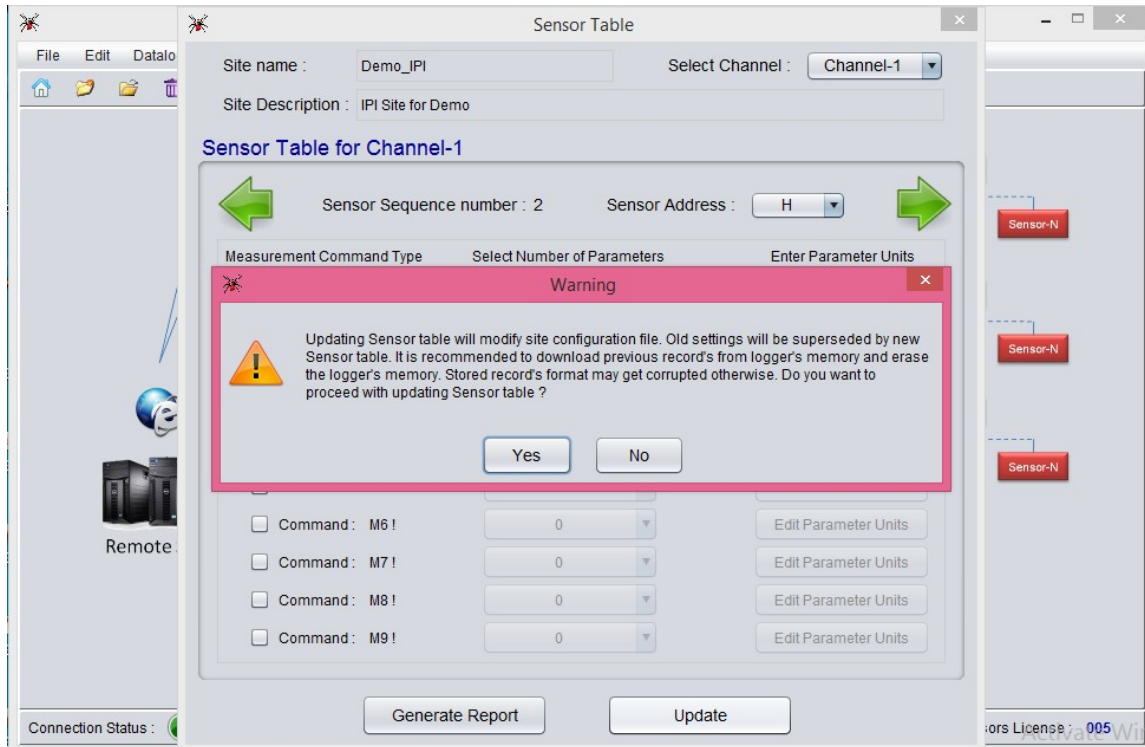

Figure 36 Warning message window appearing upon update of sensor table window
- 19 “Warning” message window will appear (figure 36). Click “Yes”